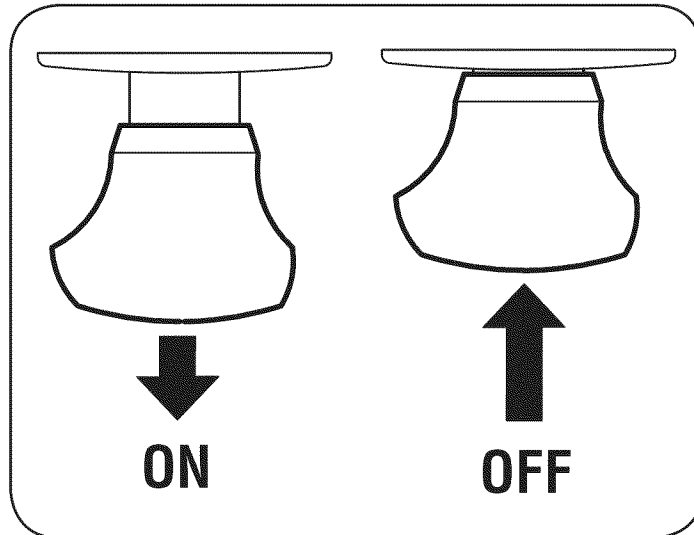

Figure 9
2. Pull the PTO/Blade Engage knob back into the engaged (ON) position. See Figure 9.